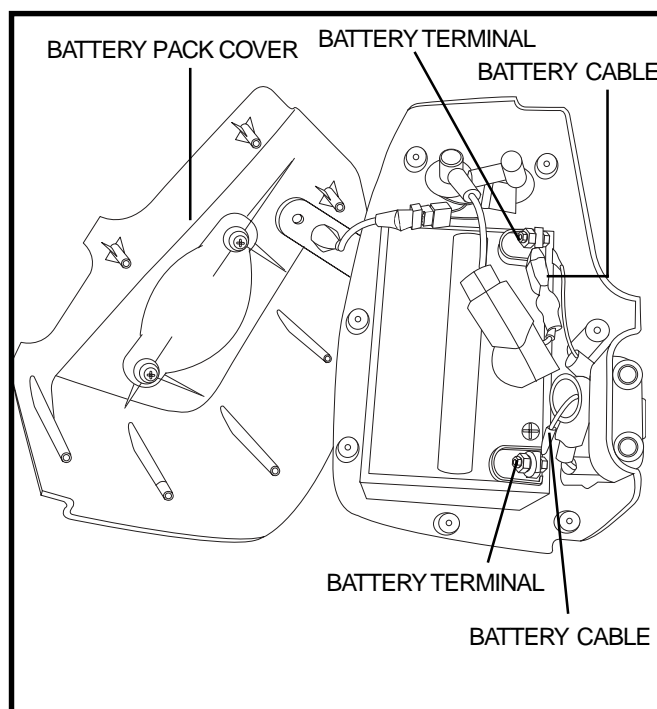

Figure 9. Battery Replacement
4. Arrange each pack so the handle is facing up, slowly remove the cover, and situate it as shown in figure 9.